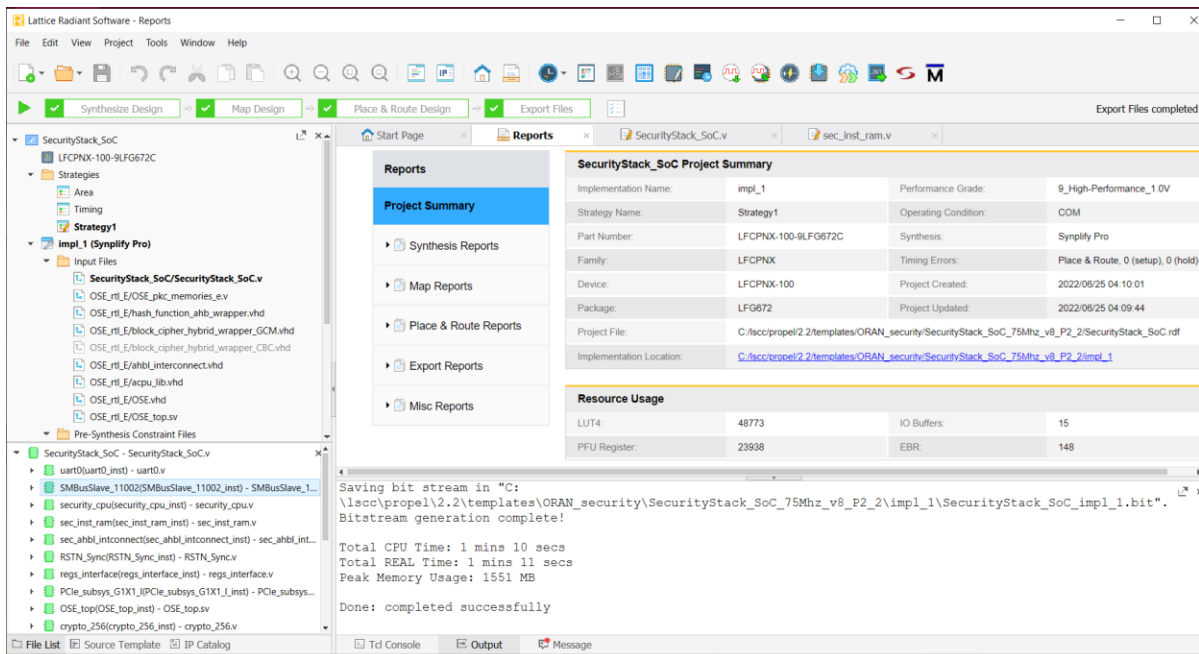

Figure A.23. Security Stack_SoC Project after Synthesis and Bit File Generation
- The bit file is generated and saved in the project *impl_1* directory with green mark as shown in Figure A.23.